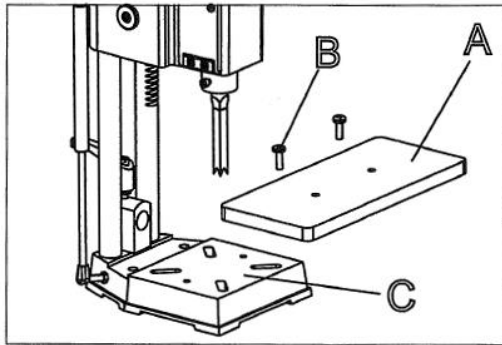

Fig. 6
See Fig. 6. Fix the table (A) to the base using the two M6x1x35mm flat head screws (B). Insert the two screws (B) into the two holes (D) in table (A). Place the two T-nuts (C) into the slots € provided in the bottom of the base and tighten the two screws (B) into the two T-nuts (C) securely.